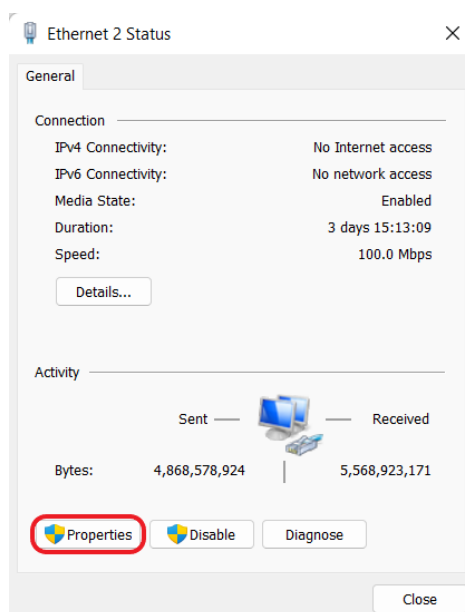

Figure 18: Network Configuration – 'Ethernet Adapter Status' window
- If your computer is connected to a HEAT VIEW controller already via ethernet cable, the window that pops up will be the 'Ethernet Status' window and you will have to click on 'Properties' as is highlighted in Figure 18 below.